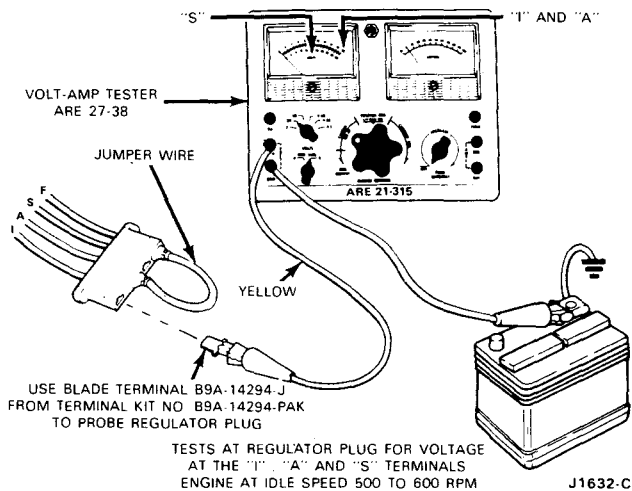

FIG. 10 Regulator Plug Voltage Tests
plug from the A to F terminals (Figure 10), excessive current will cause heat damage to the regulator wiring plug terminals and may burn the jumper wire (Fig.10). Also, if the field circuit was grounded, the connector wire inside the regulator will be burned open and an undervoltage condition will result.
1. If the field circuit is satisfactory, disconnect the regulator wiring plug at the regulator and connect the jumper wire from the A to the F terminals on the regulator wiring plug (Fig. 10).
1. Connect the positive lead of the voltmeter to the S terminal of the regulator wiring plug (Fig. 10). Then, turn the ignition switch to the ON position. Do not start the engine.
2. With the engine idling, connect the positive lead of the voltmeter to the S terminal and then to the I terminal of the regulator wiring plug (Fig. 10). The voltage of the S circuit should read approximately 1/2 of the I circuit.